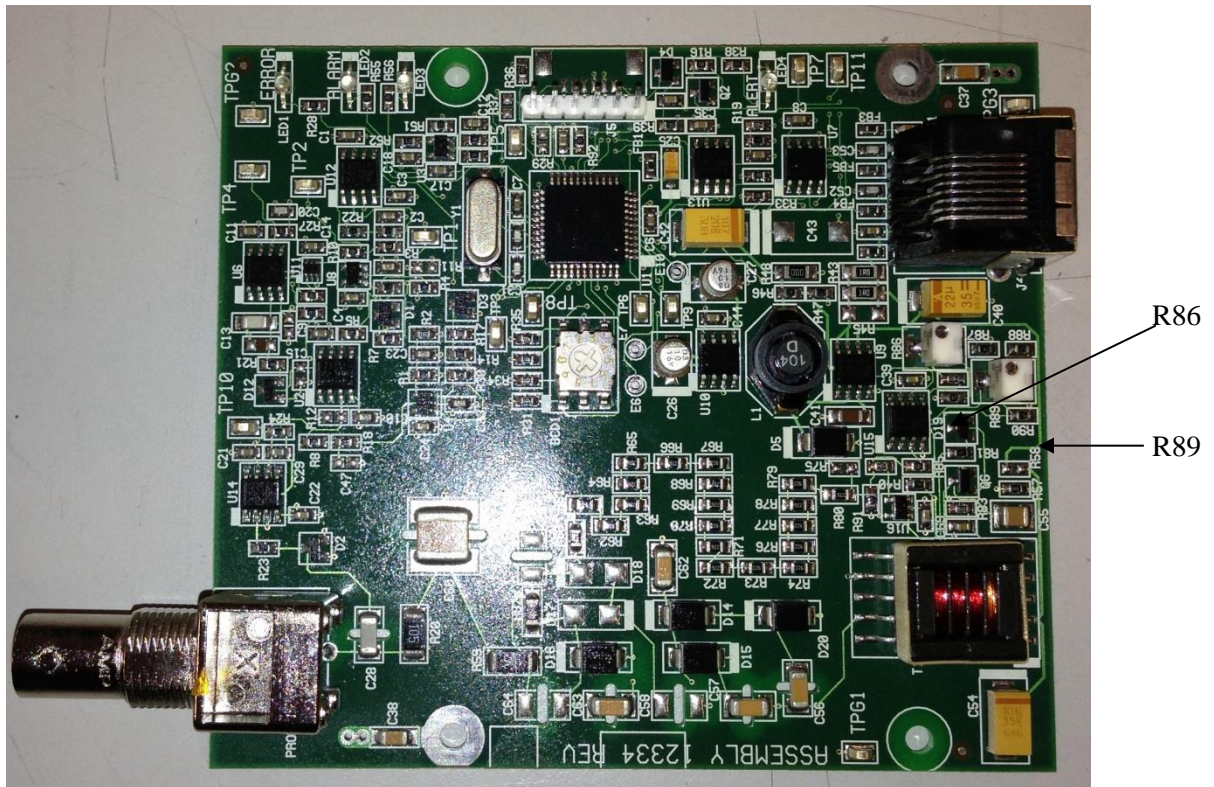

FIGURE 1 – 10 Turn Pots
- 3.2 The HV board is illustrated in FIGURE 1